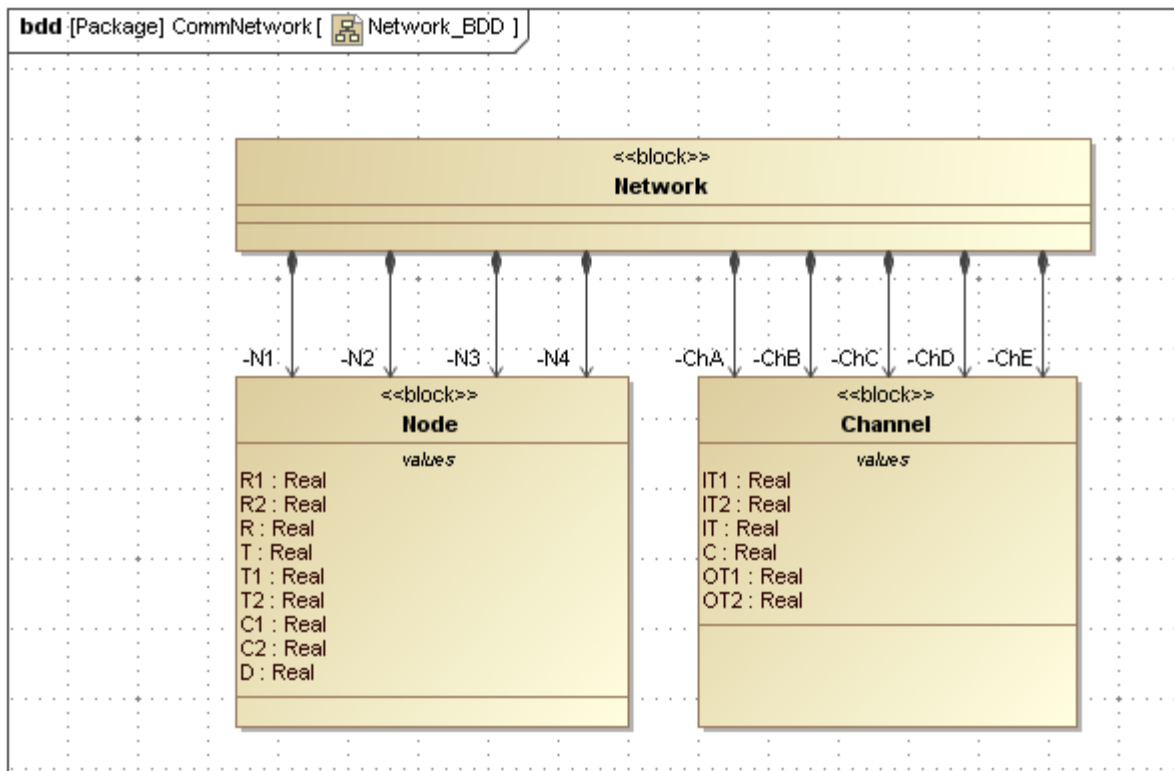

Figure 5.4 CommNetwork Block Definition Diagram
- ii. Using the Direct Composition connector from the floating toolbar, connect as shown in Figure 5.4. Note that four connections are made from Network to a single Node block, and the resulting four Part Properties are named N1, N2, N3 and N4. Similarly, five connections are made from Network to a single Channel block, named as ChA thru ChE.